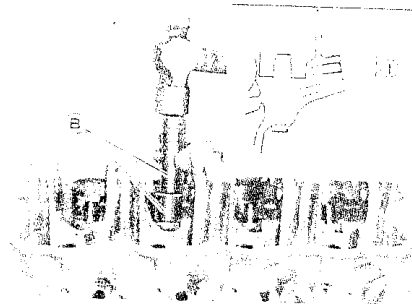

Fig. 3-61
- 2) Heat the cylinder head uniformly to anywhere between 80 C and 100 C (176°F-212°F) so that the head will not distort, and drive the oversize guide into the hole with the valve guide installer set (B). See Fig. 3-61. Be sure to carry out this step speedily so that all guides will go into the cylinder head in steady temperature state.